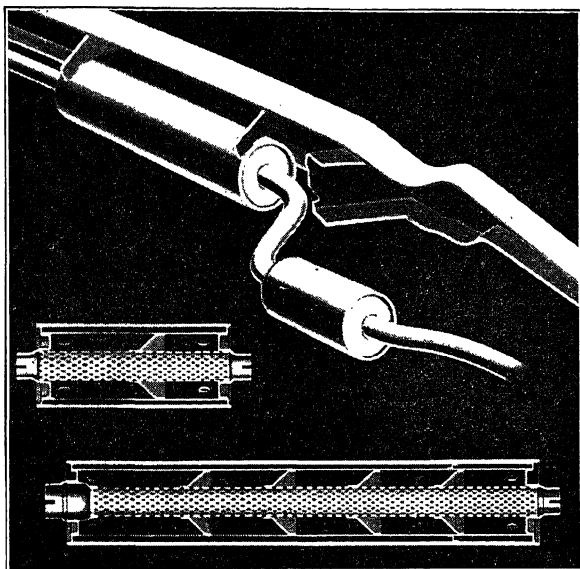

Fig. 11. Nash Exhaust Muffler System
**Dual Mufflers.** Fig. 11 illustrates the Nash dual muffler connected to the car frame above and in sectioned view below. It will be noted that these mufflers are of the straight-through type, being provided with a central tube perforated with many openings into the outside chamber. The expansion of exhaust gases through these openings into the outer chamber results in their coming in contact with the outer wall which is constructed of several thicknesses of sheet metal with asbestos between. Practically all exhaust noises are eliminated by using two of these mufflers and allowing the gases from the larger one to flow through a tail pipe into the smaller one, and from it through a tail pipe into the open atmosphere.